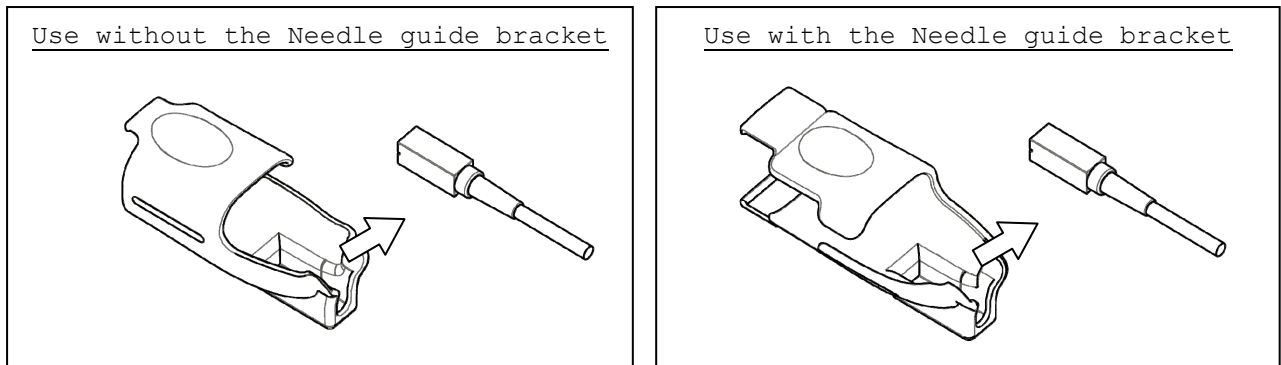

Fig.14 How to release the magnetic sensor
b) Release the Magnetic sensor from the Magnetic sensor attachment as shown in Fig.14.